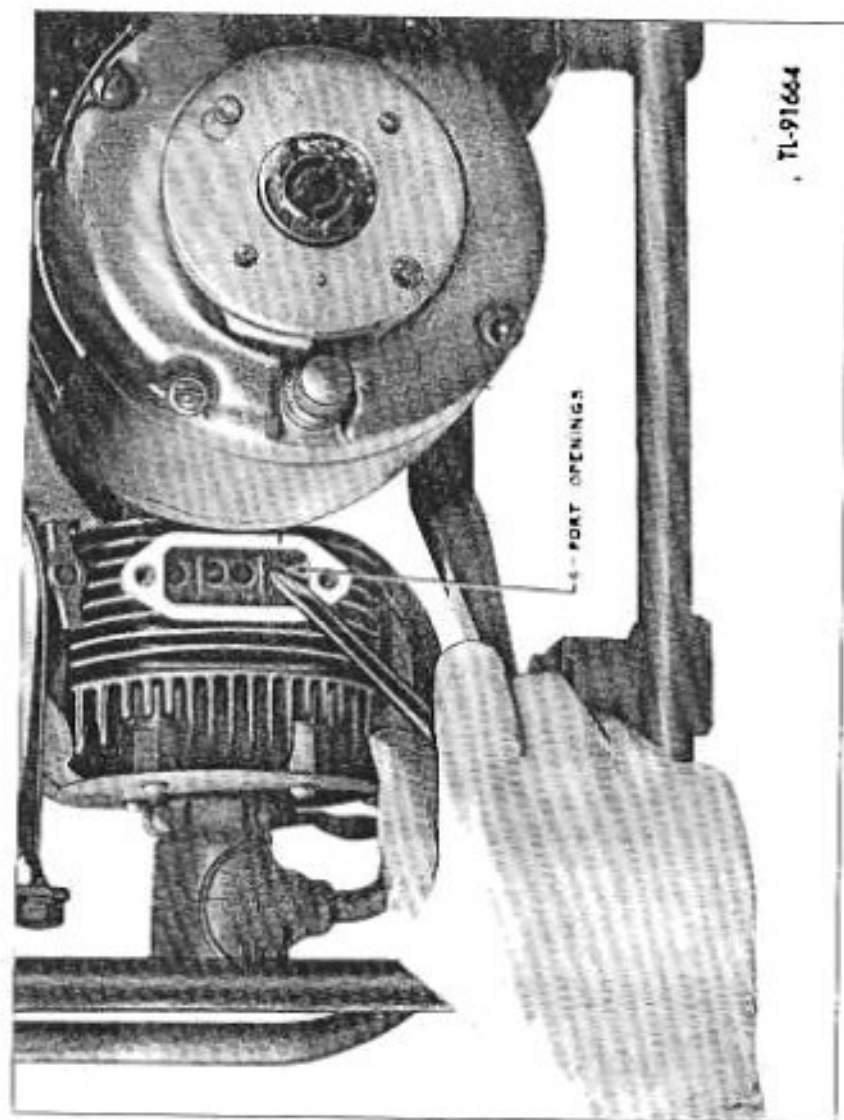

Fig. 15—Carbon Removal—Exhaust Ports
(1) Exhaust ports. To clean out the exhaust port holes (fig. 15), remove the muffler (445). Turn the engine over by hand until the piston reaches bottom dead center. Clean out the port openings, using the screw driver (456A) furnished with the equipment. Turn the engine over several times to permit carbon chips an opportunity to pass out of the engine before reinstalling the muffler.